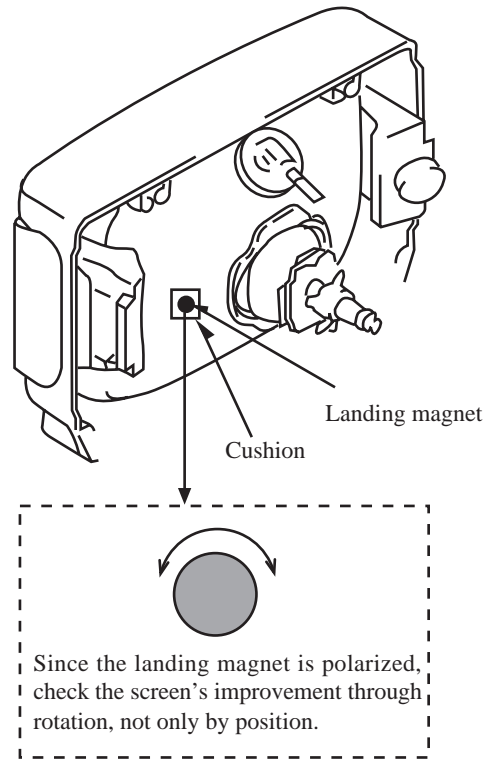

Fig 1-6
- ❖ If the color irregularity in the screen's corner section are not improved, correct them with the landing magnet. After using the landing magnet, be sure to demagnetize the CRT with degausser and verify that there is no occurrence of color irregularity. (refer to Fig. 1-6)